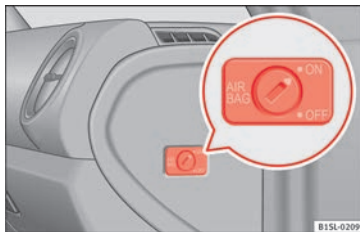

Fig. 75 On front passenger side: Key switch for enabling and disabling the front passenger front airbag.
- Using the vehicle key, turn the key switch to **ON** **»»** **Fig. 75**.